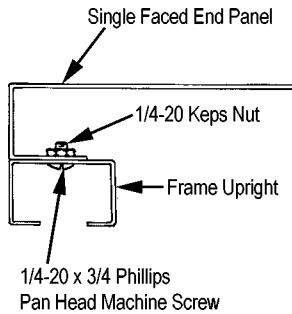

FIGURE 33
1. Stand end panel against welded frame and attach to the upright with 1/4-20 x 3/4 Phillips pan head machine screws and 1/4-20 Keps nuts. See Figure 33.